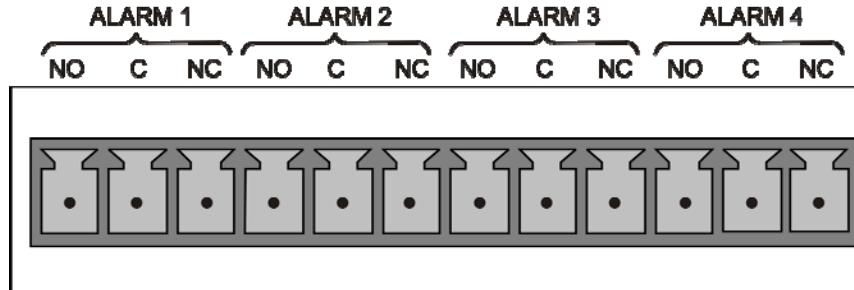

Figure 5-19: Concentration Alarm Relay
The Teledyne “E” series analyzers have an option for four (4) “dry contact” relays on the rear panel of the instrument. This relay option is different from and in addition to the “Contact Closures” that come standard on all TAI instruments. The relays have 3 pins that have connections on the rear panel (see Figure 5-19). They are a Common (C), a Normally Open (NO), & a Normally Closed (NC) pin.